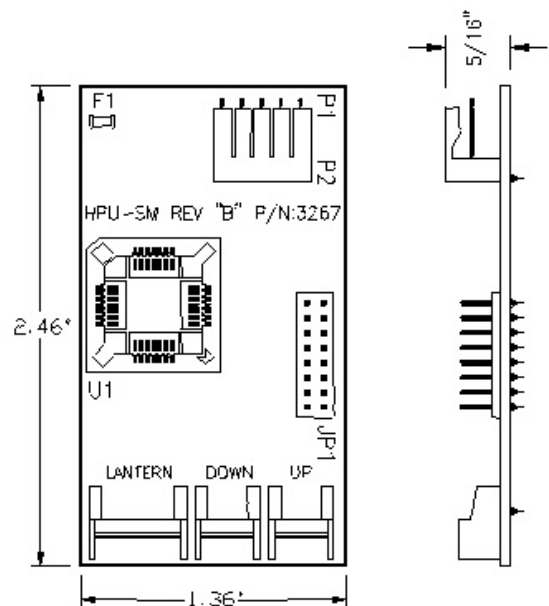

Figure 1-18
- Verify the HPU address jumpers are correct for that floor. [See Figure 1-18 and HPU Address Jumper Configuration Charts.]
- Connect the other end of the cable to the Hall Push Button HPU board P1 (5 pin) connector (HPU is to remain in the Hall Call Box). Verify that the connections correspond to their appropriate connections in the hoistway. [See Figure 1-18.]
- Verify the HPU address jumpers are correct for that floor (each board has floor designation on back). [See Figure 1-18.]